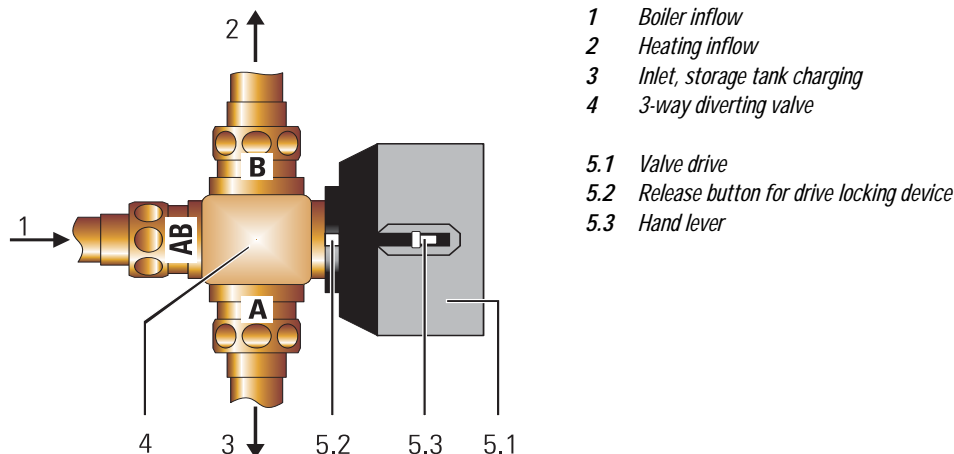

Figure 6-1 3-way diverting valve
- Press the unlocking key (Fig 6-1, item. 5.2) and rotate the motor head of the valve drive (Fig 6-1, item 5.1) 1/4 turn to the left and remove.
- Move the switch valve to the middle position using the hand lever (Fig 6-1, item 5.3). (Only possible if the valve drive was previously set to the "Heating" position).